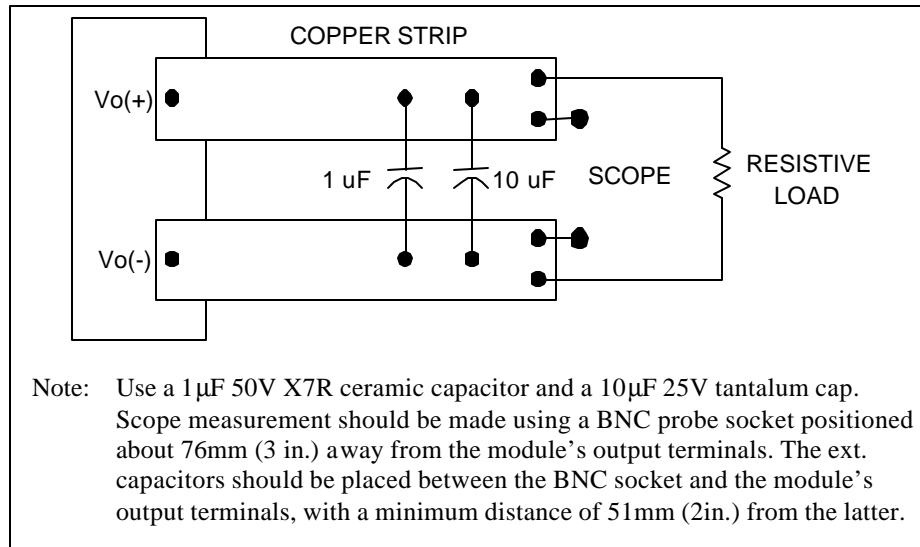

Figure 2. Peak to Peak Output Noise Measurement Setup.
3. See Figure 2 for Ripple and Noise test measurement setup.